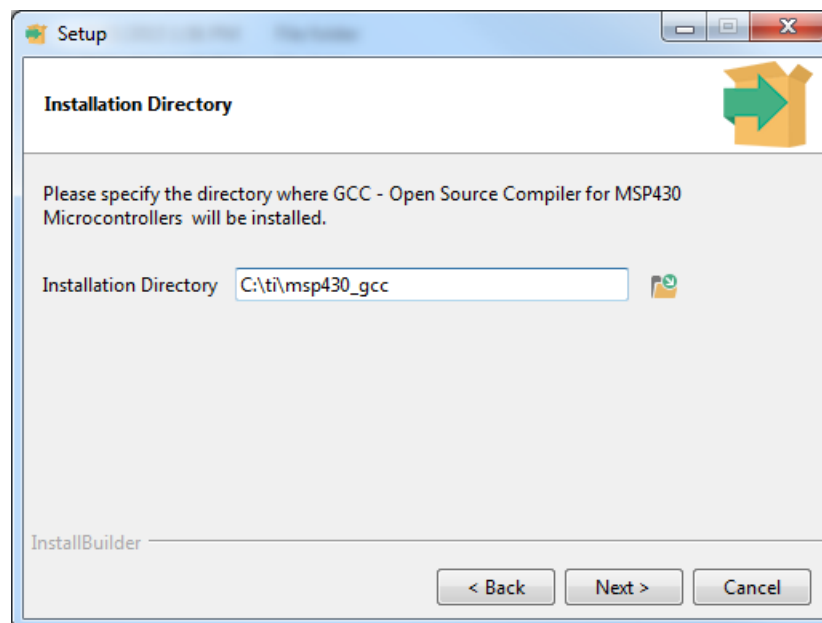

Figure 5. MSP430 GCC Stand-Alone Package Installation Directory
2. Select the install directory and click **Next** (see Figure 5).